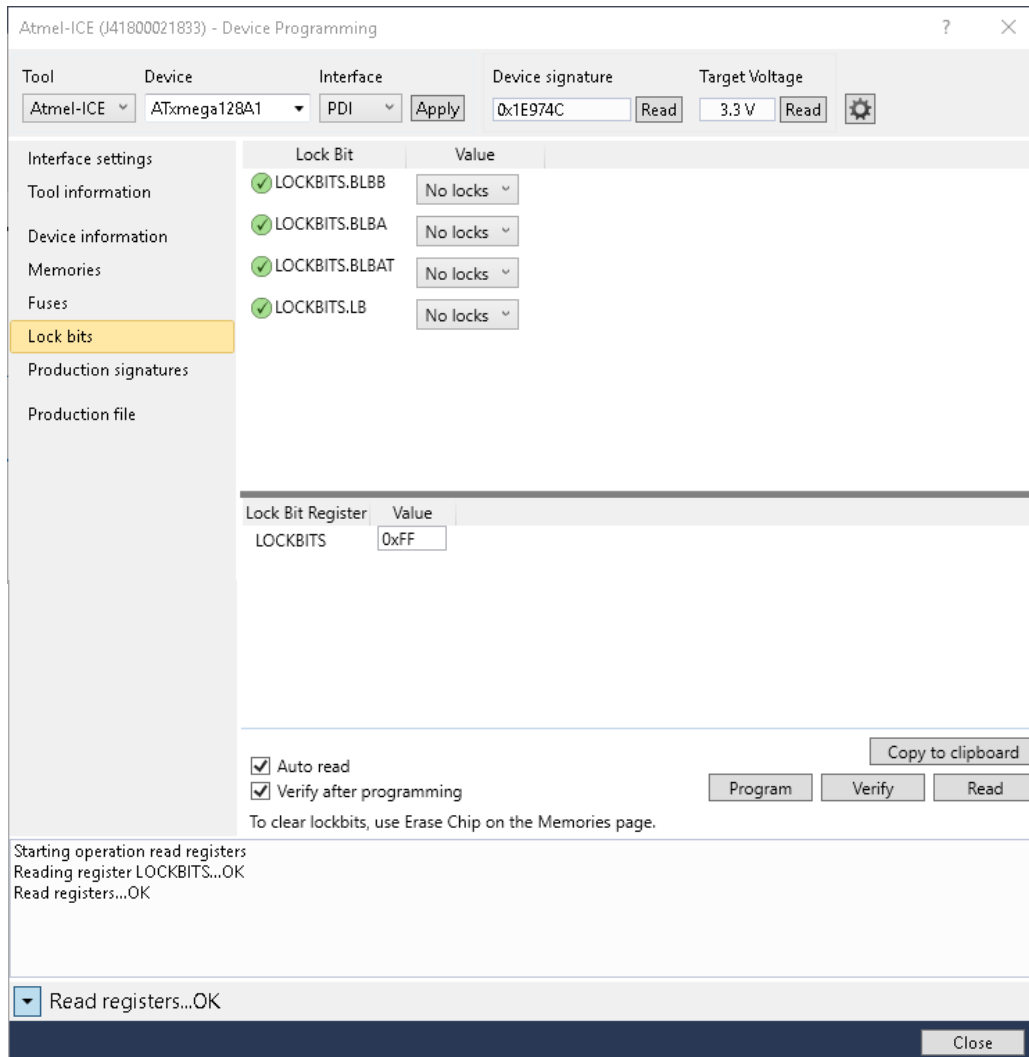

Figure 5: Atmel Device Programming Menu (Lock bits tab shown)
- (m) Select the Lock bits tab (see Figure 5) and program the lock bit Values as shown.